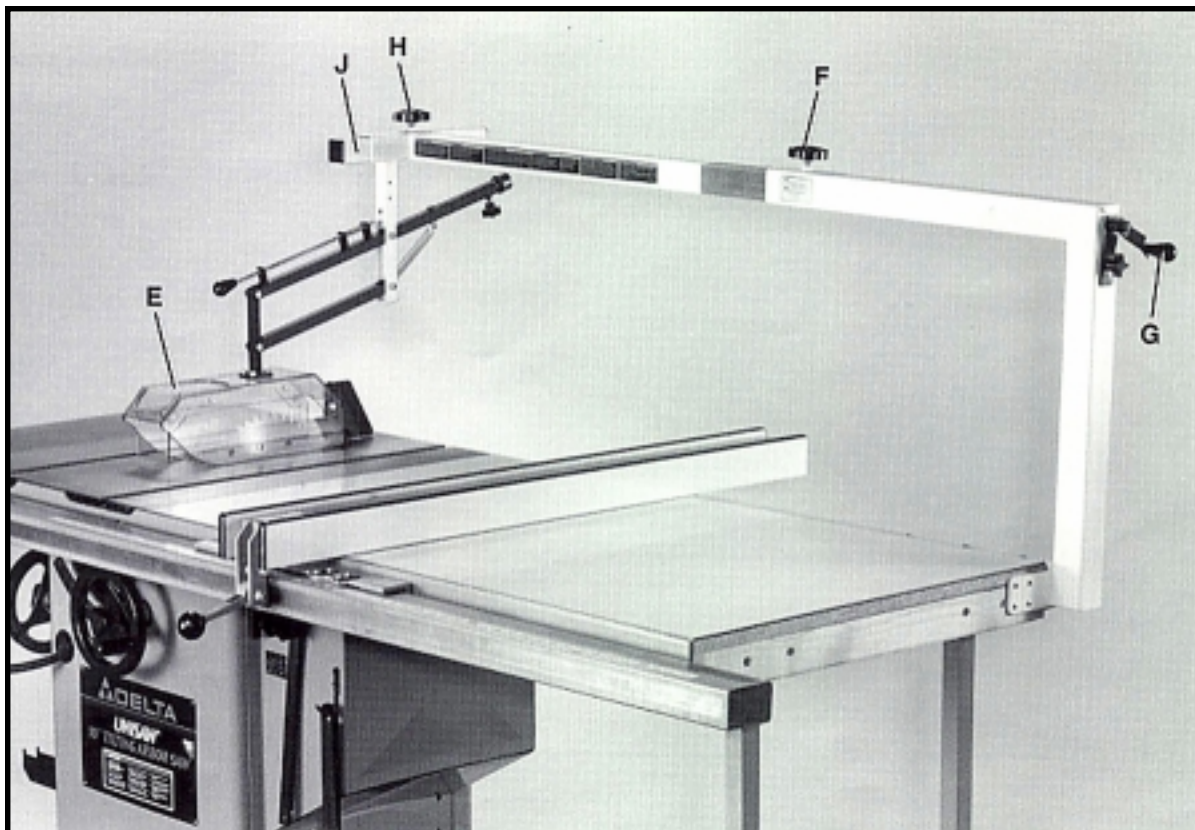

Fig. 26
22. Left to right movement of the blade guard basket (E) Fig 26, is obtained by loosening locking knob (F) and turning adjusting lever (G) clockwise to move the blade guard basket (E) to the right and counter clockwise to move it to the left. Always tighten the knob (F) after adjustment is completed.
26. Front to back movement of the blade guard basket (E) Fig. 26, is obtained by loosening locking knob (H) and sliding mounting arm (J) in or out as desired. Always tighten locking knob (H) after adjustment is complete